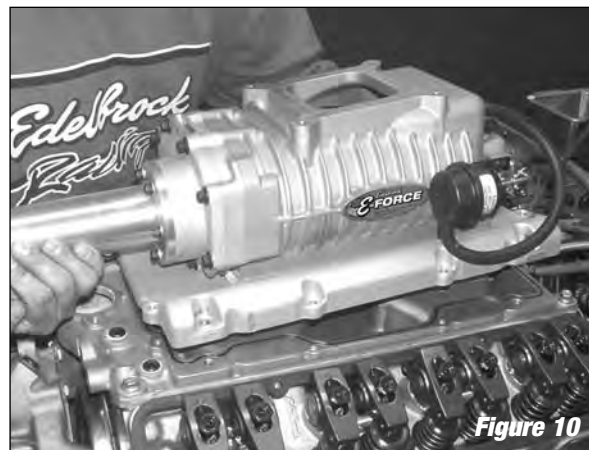

Figure 10
5. Carefully place the supercharger and manifold top plate assembly onto the intake manifold (**See Figure 10**).